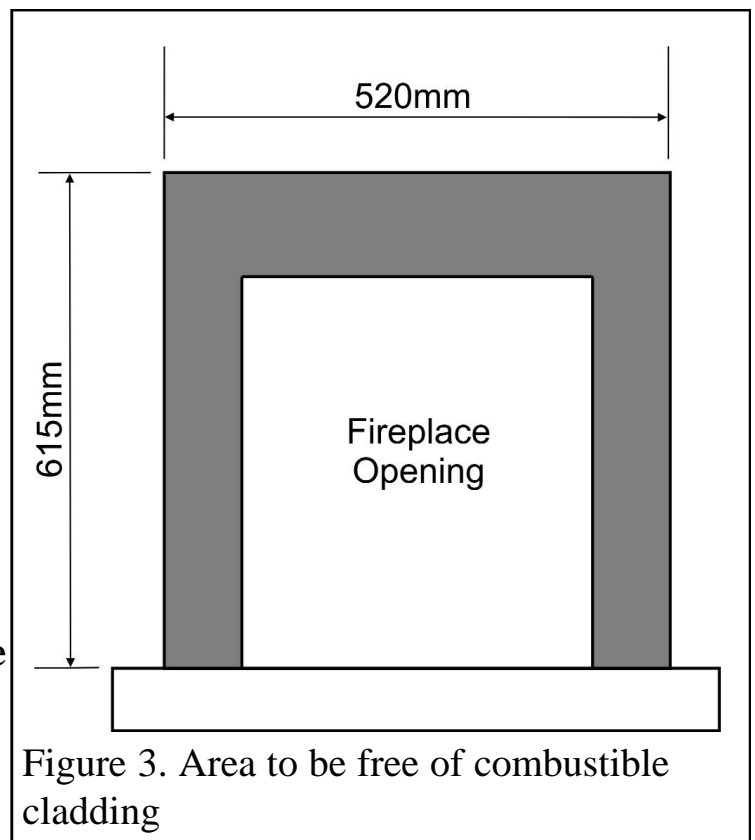

Figure 3. Area to be free of combustible cladding
**4.16** If the fire is to be fitted against a wall with combustible cladding, the cladding must be removed from the area shown in figure 3.